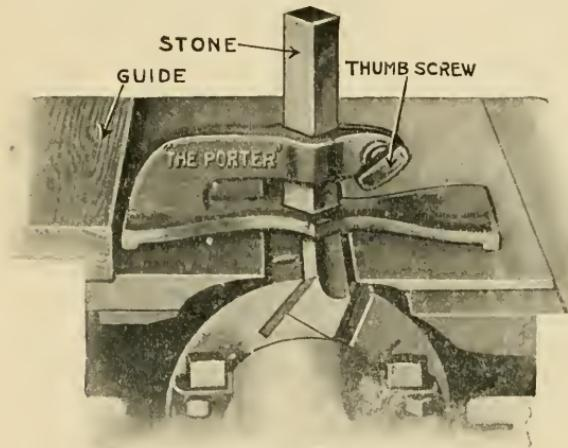

FIG. 11—JOINTING DEVICE
true, place a try square on the back table so that the end of the blade projects out over the knife----- test in this manner for the entire length of both blades, and tighten very securely. Then joint, by using the device shown in Fig. 11.
which is the simplest operation on the circular saw (1) make sure that you have the rip saw and that it projects through the table only as far as necessary for the stock which you are going to rip. (2) Make sure that the fence is adjusted for the proper width. Use the scale on the top of the table which is shown in Fig. 11 for adjusting the fence. When you have it approximately adjusted tighten the clamp and then make the adjustment exact by means of